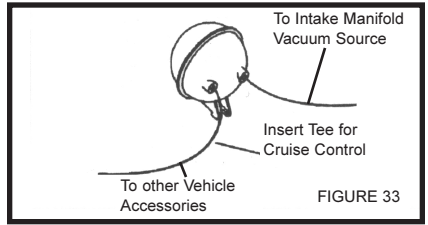

FIGURE 33
**VACUUM RESERVOIR:** Usually mounted on inner fenderwell or engine bulkhead. Maintains vacuum of other vehicle accessories. **Figure 33**